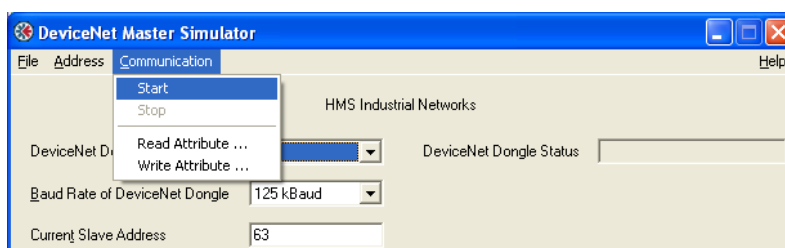
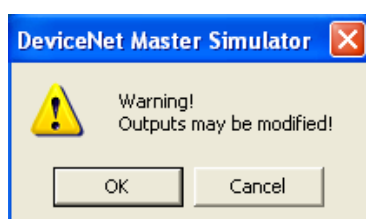

Figure 4.2-2: Connecting with DeviceNet Master Simulator to a device.
Figure 4.2-3: Warning dialog shown when connecting.
6. A warning dialog, “*Warning! Outputs may be modified!*”, will be shown. Dismiss the dialog by pressing *OK*. See Figure 4.2-2 **Error! Reference source not found.** and Figure 4.2-3 **Error! Reference source not found.** for screenshots of this.